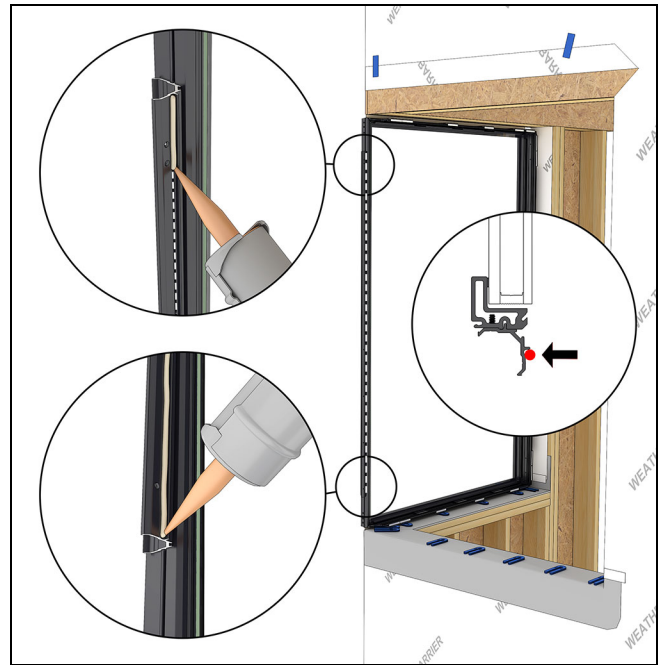

Figure 41
5. Place a 1/8" (3) bead of adhesive along the exterior side of the leg on the corner bracket. See Figure 41.